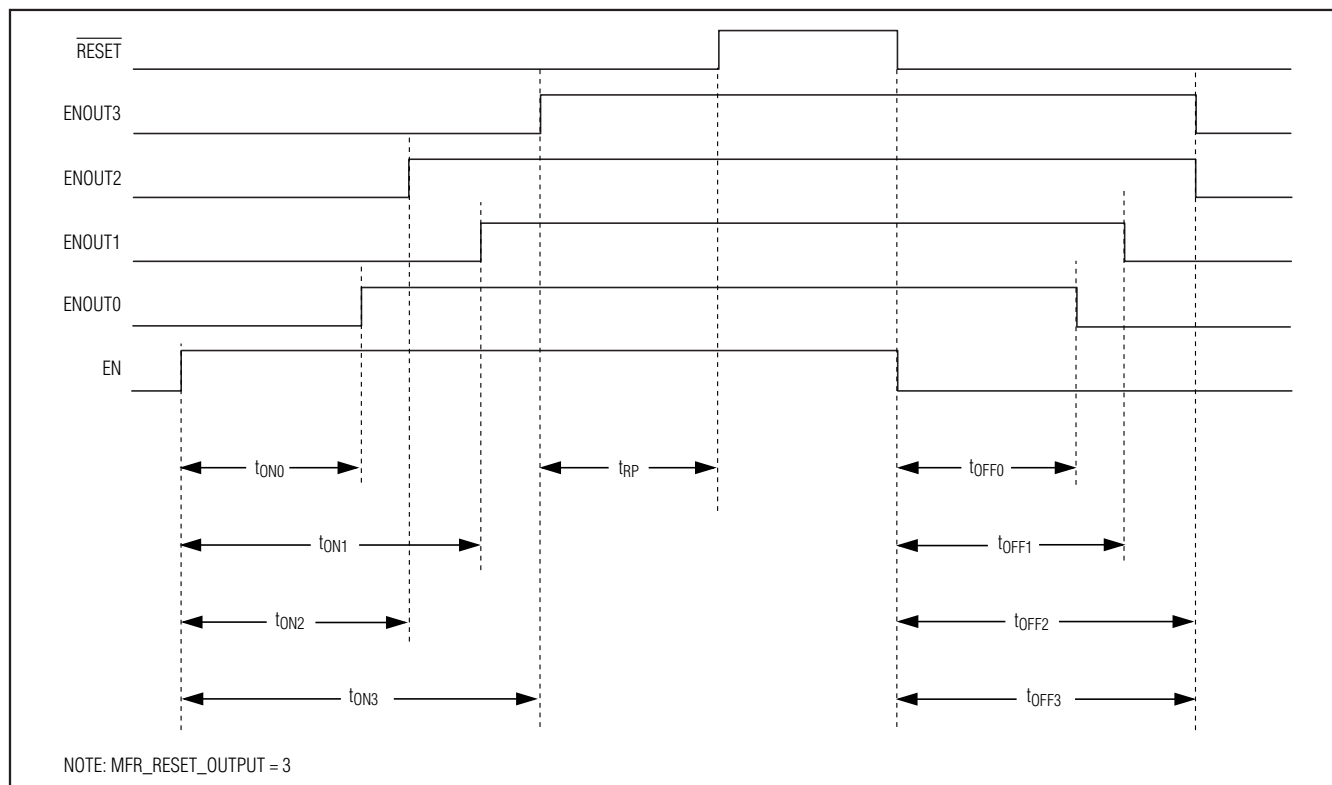

Figure 9. MAX16064 Typical Sequencing Timing
RESET is an active-low, open-drain output that is low when the device is powering on. RESET is assigned to one of the power supplies using the MFR\_RESET\_OUTPUT command. When that power-supply output is at the target voltage, RESET goes high after the reset timeout period (see Figure 9). The reset timeout period ( $t_{RP}$ ) is set by the MFR\_RESET\_DELAY command.
The MAX16064 includes an enable input (EN) that controls all ENOUT\_ signals in conjunction with the MFR\_MODE command. Unless MFR\_MODE.IGNORE\_EN is set, a below-threshold level on EN prevents any ENOUT\_ from turning on. Additionally, if the voltage at EN falls below the 1.2V (typ) threshold during OPERATION ON, the MAX16064 follows the fault action in MFR\_FAULT\_RESPONSE.EN. Figure 9 shows a typical sequencing with MFR\_MODE.IGNORE\_EN = 0.